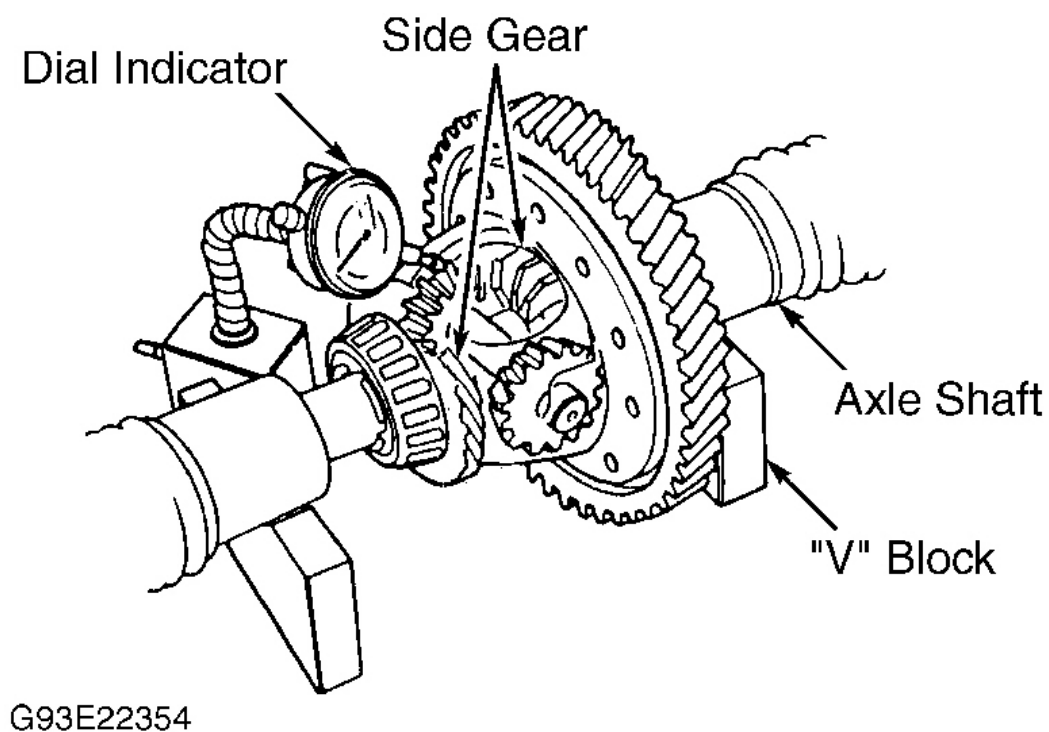

Fig. 30: Checking Side Gear Backlash
2. Install dial indicator with stem resting against pinion gear. See **Fig. 30** . Check side gear backlash. Side gear backlash should be .002-.006" (.05-.15 mm). If side gear backlash is not within specification, replace differential carrier.